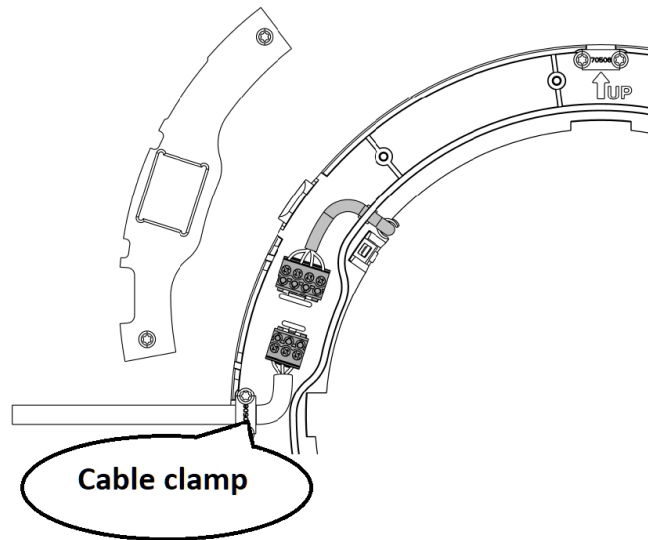

Figure 39 - Cable connection with cable clamp in terminal 3
4. Move the cable clamp from the top of the cover and attach it by terminal 3, see Figure 39.